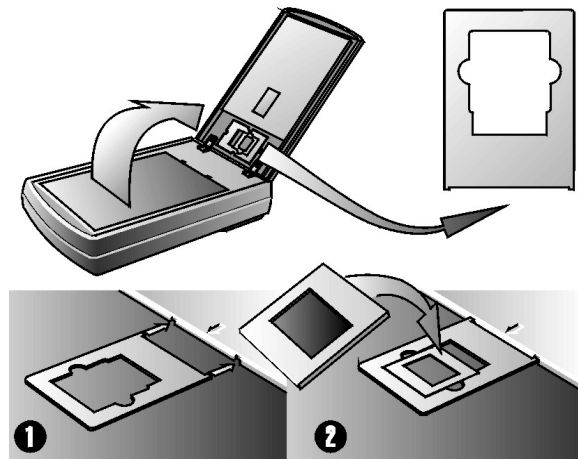

Figure 9. Negative Film Scan
1. Place the appropriate frame holder onto the scanner glass. There are two notches in the frame of the scanner surrounding the scanner glass (see Figure 9, Step ❶). The two tabs on the frame holder should be fit into the notches.
2. Insert the slide into the holder (see Figure 9, Step ❷). When this is done, the slide is perfectly positioned for scanning.